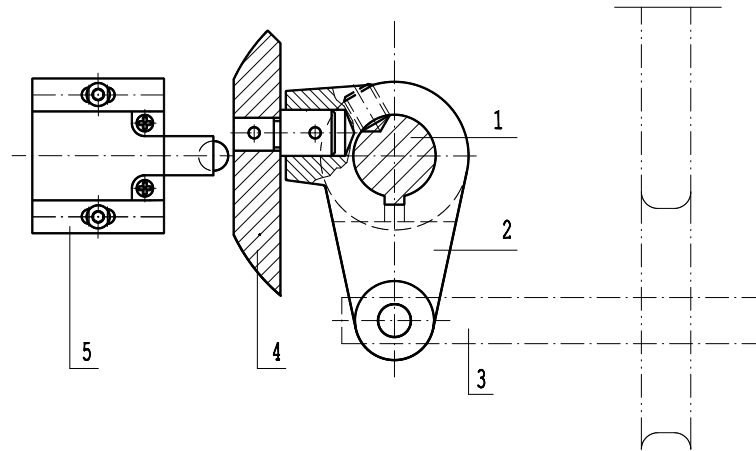

Fig. 32 Interlocking protection of spindle starting
When the lever for forward/ reverse of spindle is shifted up, the reversing rod (1) will be clockwise rotating, the lever (2) will outwards pull the pulling rod (3) along with it for controlling the friction clutch, on the left end of headstock, to work through the vertical shaft, having spindle forward. In reverse, the lever for forward/reverse of spindle is shifted down, the reversing rod (1) will be counter-clockwise rotating, and the spindle will reversely rotate. In the both cases mentioned above, the cam (4) on the lever (2) is always compressed on the travel switch (5), in this time, although re-power-on of the machine after power-off of the main motor due to some trouble, the main motor cannot be started, too, that is, when the lever for forward/reverse of spindle recovered at the neutral position, the cam releases the travel switch, thus, the main motor can be started again. See Fig. 32.